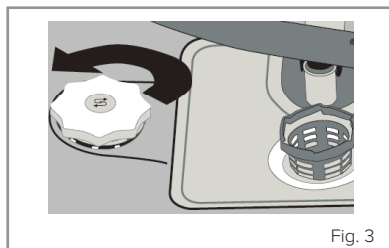

Fig. 3
1. Remove the lower dishwasher basket and then unscrew the salt compartment cap, as shown in Fig. 3.